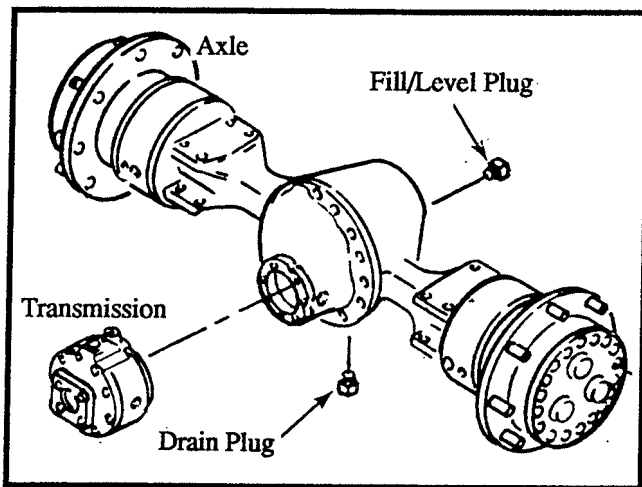

Figure 12-5. Axle Housing Fill/Level Plug
6. Remove the fill/level plug located in the face of the axle housing. Using that port, refill the housing with GL-5 SAE 90 (MIL-L-2105C) gear oil. Refer to Figure 12-5.